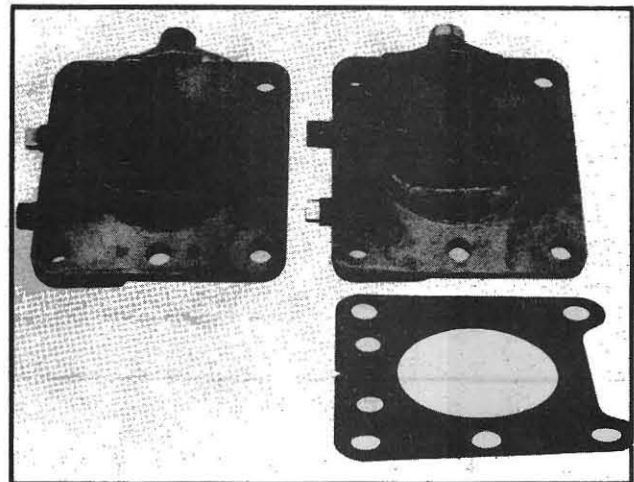

Fig. 314
Valve chamber assemblies are not interchangeable in the two model pumps. Use the TO-621 and TO-622, left and right hand assemblies to service the pumps used in the TO-20 and TE-20 tractors, see Fig. 314. Use the TO-621-A and TO-622-A assemblies to service the TO-30 pump. The component parts of the various assemblies, except the valve chamber and valve chamber to pump housing gaskets, are interchangeable in all assemblies.
4. The valve chamber to pump base gaskets used on the TO-30 pump are small O-rings fitted into grooves around the discharge ports. The TO-20 and TE-20 pumps make use of a flat gasket between the valve chamber and pump housing, see Fig. 314. Always use new gaskets when assembling the pump.